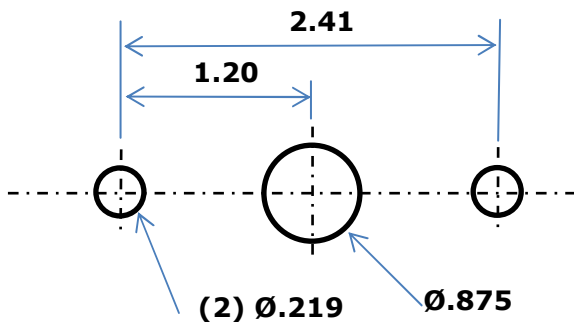
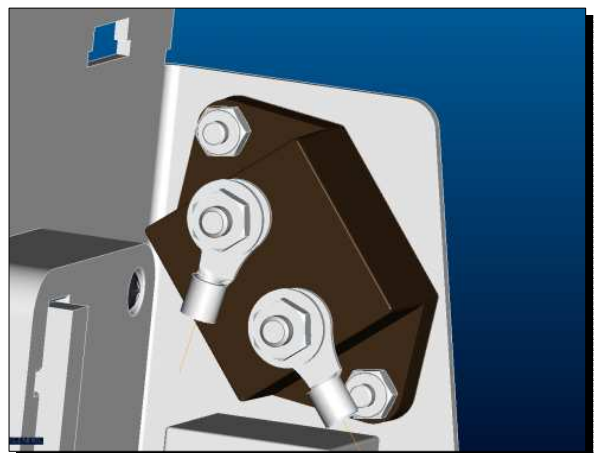

Figure 29 – Circuit Breaker Mounting Hole Layout
Figure 30 – New Circuit Breaker Mounting Location
4. See Figures 29 and 30 below. To reuse the panel: Lay out and drill the mounting holes as shown in Figures 29 and 30. Note that you will need to mount the new circuit breaker at the angle shown in Figure 30.